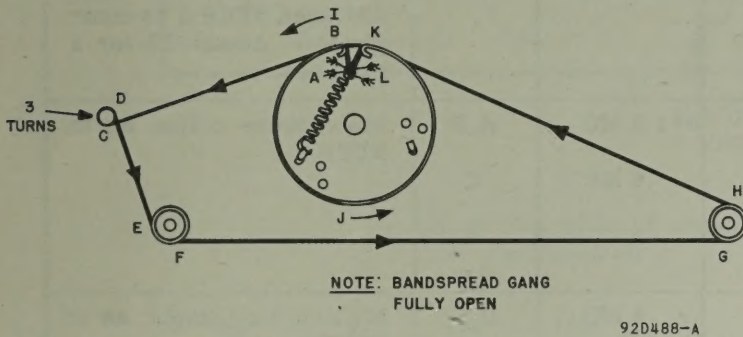

Fig. 6. BANDSPREAD Dial Cord Stringing Diagram
2. Tie one end of a 36 inch length of 30 lb. test dial cord to the spring at position A. See Fig. 6.